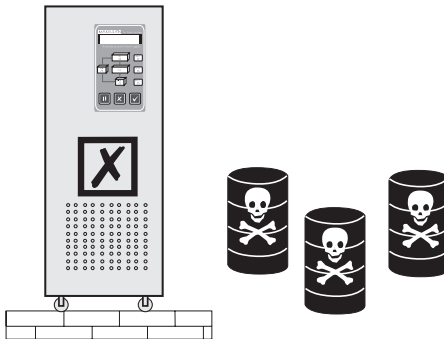

Figure 10
6. Do not install UPS in the place where contains caustic gas. (Figure 10)